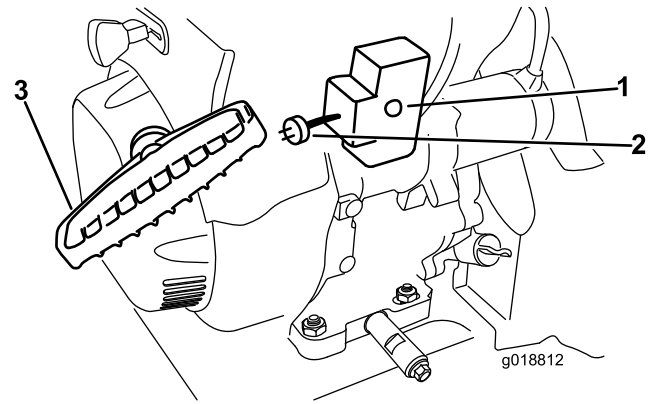

Figure 30
7. Start the machine by pulling the recoil starter or pressing the electric-starter button (Figure 30).